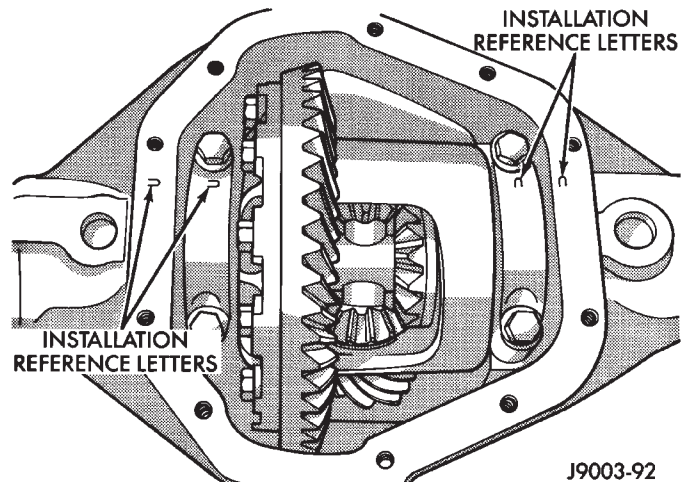

Fig. 64 Differential Bearing Cap Reference Letters
(6) Install the bearing caps at their original locations (Fig. 64). Tighten the bearing cap bolts to 77 N•m (57 ft. lbs.) torque.